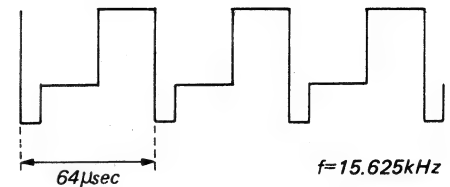

Fig. 3-22
When 12 V is supplied from the TEST 12 V IN, TC 4069UBP oscillates a horizontal sync frequency of 15.625 kHz and the waveform shown in Fig. 3-22 is supplied to the RF modulator from the VIDEO OUT (RF).